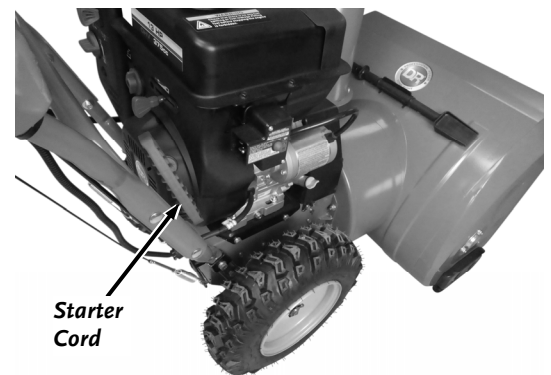

Figure 28
6. Slowly pull the Starter Cord until you feel resistance, then pull quickly (**Figure 28**). The Cord will recoil back into position when released.